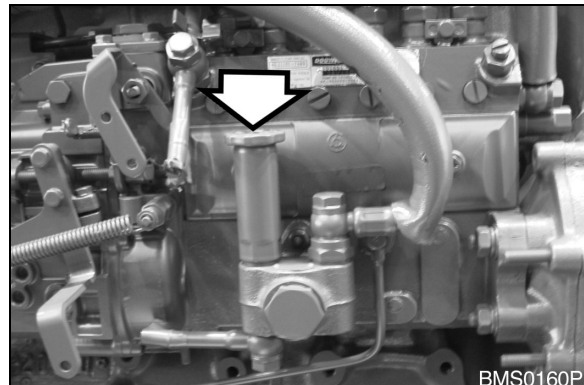

Figure 17
2. Unscrew and pump the hand operated primer pump (Figure 17) by the fuel injection pump. Pump the primer until fuel is present at plug hole in the fuel filter head.